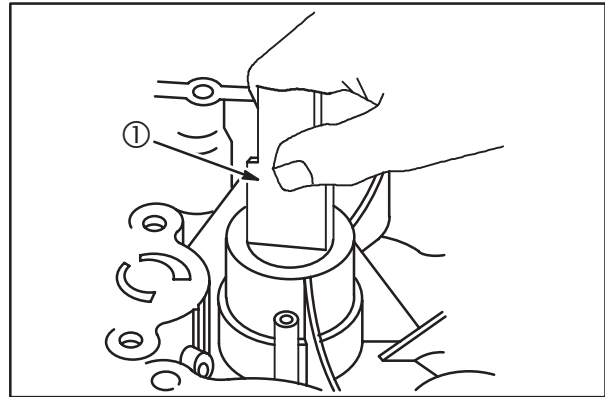

Fig. 18
Replace the sump if the PTO bearing is scored or if Plug Gauge #19380 (1), enters bearing. Try gauge at several locations in bearing, **Fig. 18**.